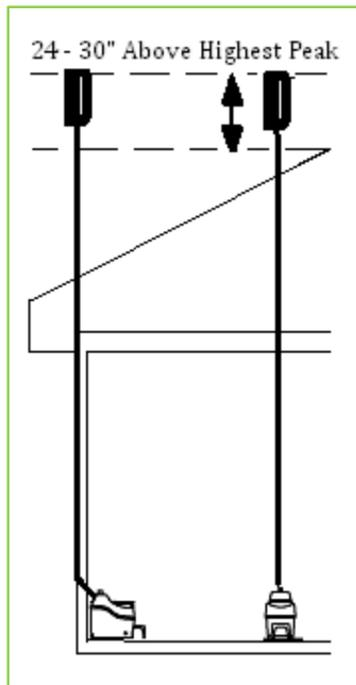

Figure 10. Install the vent vertically, 24-30" higher than the tallest point of the roof.
1. To install the vent stack attach the narrower end of the vent inlet coupling shown in Figure 9 to the 4" vent hole located at the top of the toilet. Install the vent pipe vertically, 24-30" above the highest point of the roof (reduces downdraft), with no more than two 45° bends as shown in Figure 10.